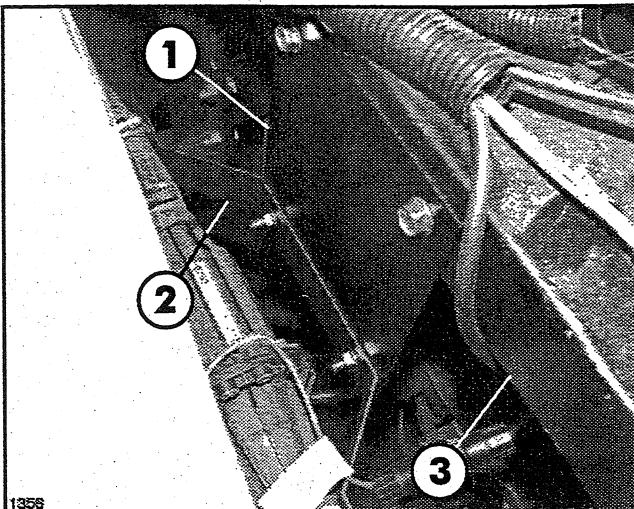

FIG. 5
2. Attach top of Flow Meter Extension Bracket to Solenoid Mounting Bracket, where Flow meter Assembly was removed, using (2) 5/16 x 1" cap screws, washers and hex nuts. See FIG. 5.